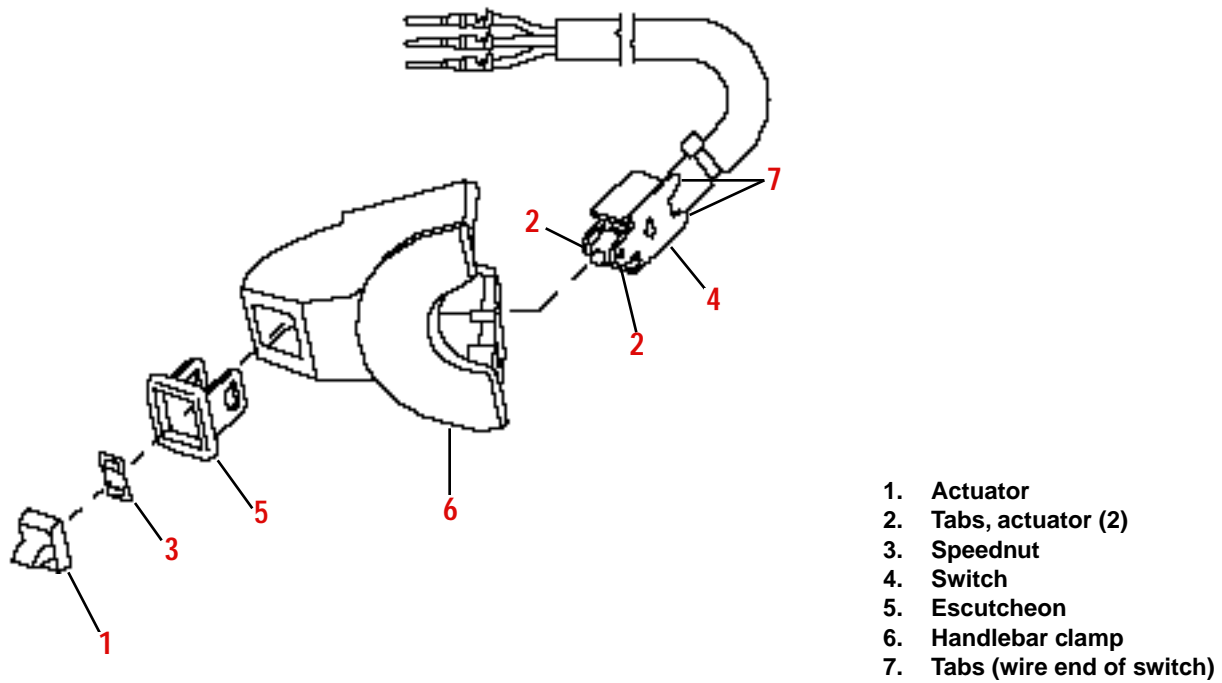

Figure 2. Cruise Control SET/RESUME Switch Assembly
1. See Figure 2. Insert the escutcheon (5) into the handlebar clamp (6).
2. Insert switch (4) with side having two tabs (7) positioned as shown in Figure 2.
3. Press switch into escutcheon (5) until it latches into position.
4. Install speednut (3), place actuator (1) on switch rod and press until actuator pins enter holes in switch tabs (2).